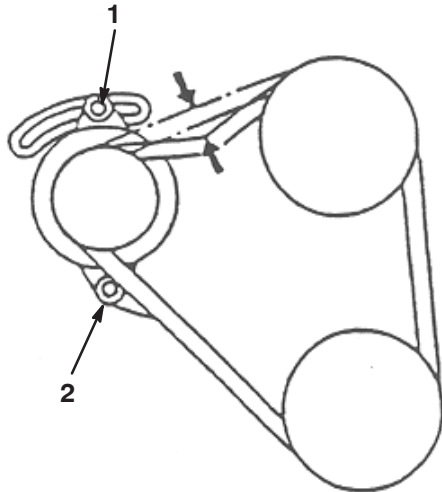

Figure 7
- Check the tension by depressing the belt (Fig. 7) at the mid span of the pulleys with inward thumb pressure. The belt should deflect 1/2 in. (12 mm). If deflection is incorrect, proceed to next step.